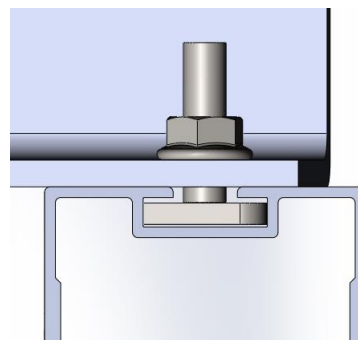

Fig. 17
4.5.3 Fasten T-head bolt slightly, as shown in Fig.17.